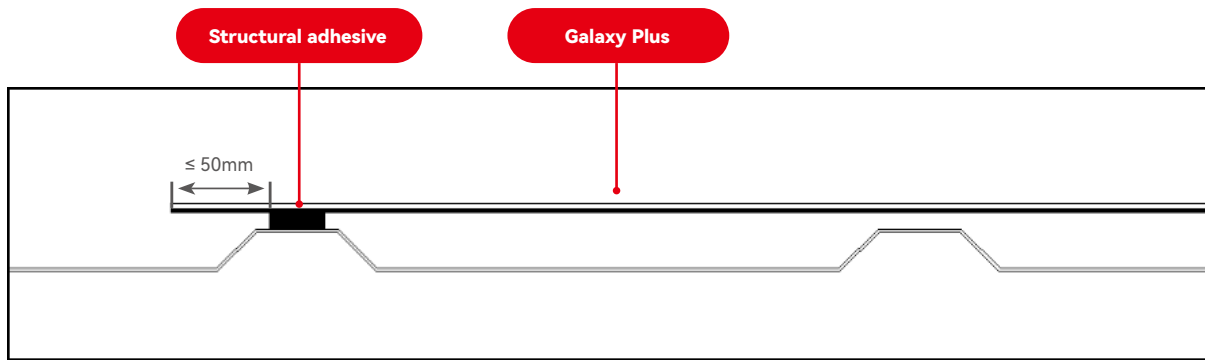

FIGURE 3
- The distance that the product overhangs beyond the rib at each end should not exceed 50mm. (Figure 3)